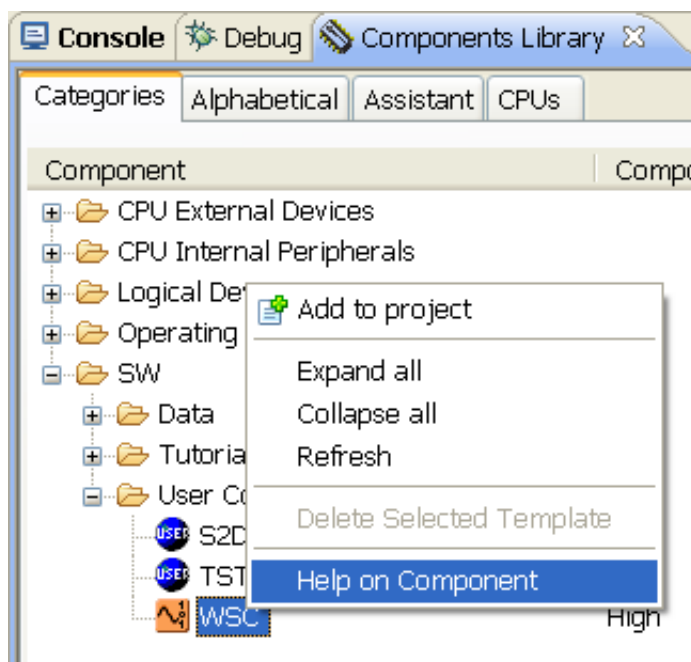

Figure 4. Show help doc
5. You can get component help by right clicking the WSC component , refer to Figure 4
6. Add WSC to project Refer to Figure 4, select Add to project